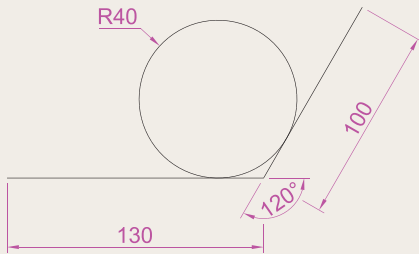

Fig. 2.33 Exercise 6
- Using the **Line** tool construct the two lines at the length and angle as given in Fig. 2.33. Then, with the **Ttr** prompt of the **Circle** tool, add the circle as shown.